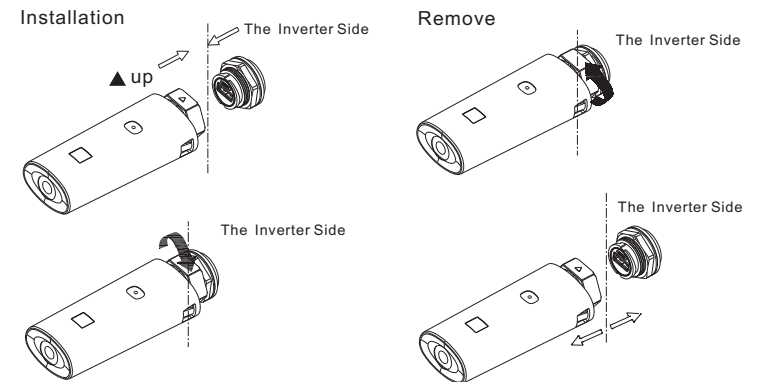

Fig 6.8B
- 3> As shown in Figure 6.8B, make sure that  $\Delta$  is on the front side, plug the monitoring module to USB\_A port, and tighten the screws.